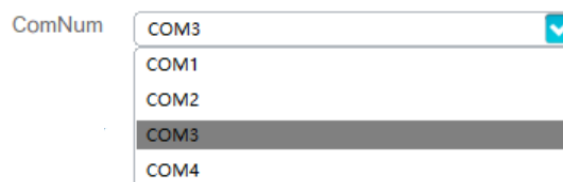

Figure 4-11 Selection of connection serial number
4. Click the icon  to select the serial number and baud rate (typical value: 115200), and click the  to set whether automatic connection is used for the next software startup, as shown in figures 4-11, 4-12, 4-13.